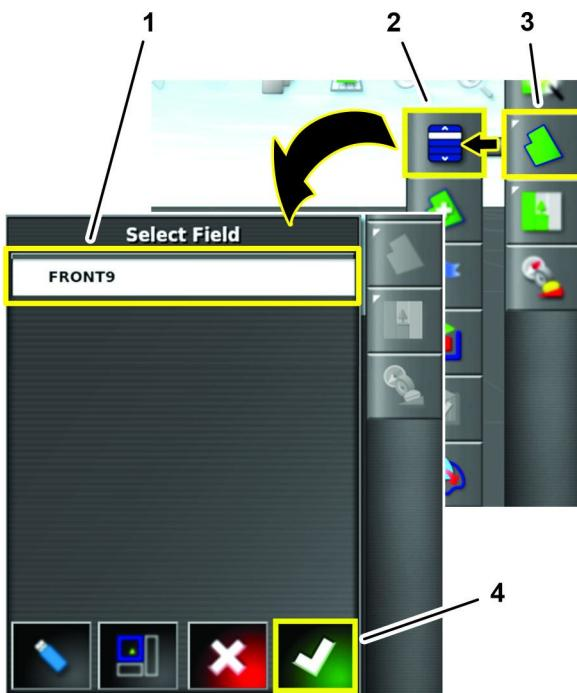

Figure 72
2. Press the FIELD MENU icon and the SELECT FIELD icon (Figure 72).
3. Press the FIELD icon into which you will merge the boundaries from machine #2, and press the confirm icon (Figure 72).